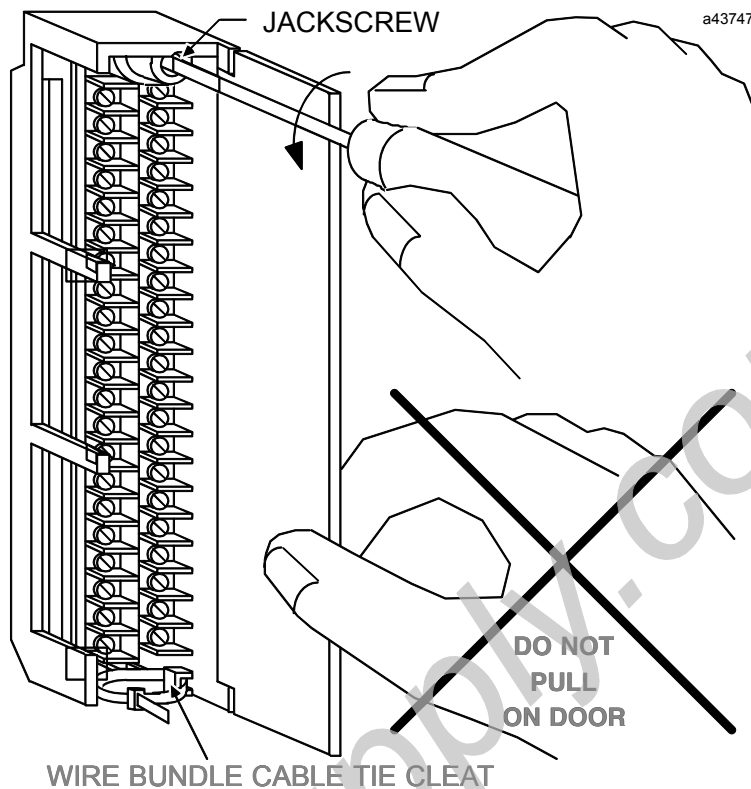

Figure 4. Removal of I/O Terminal Board
2. To remove the terminal board, grasp the top of the terminal board and swing it outward as shown in Figure 4.
4. The terminal board is designed to accept a maximum of (40) AWG #14 (2.10 mm²) wires. If AWG #14 (2.10 mm²) wires are to be used, then wire markers should be placed at least 8 inches (203 mm) from termination end to provide sufficient space for the hinged door to close.